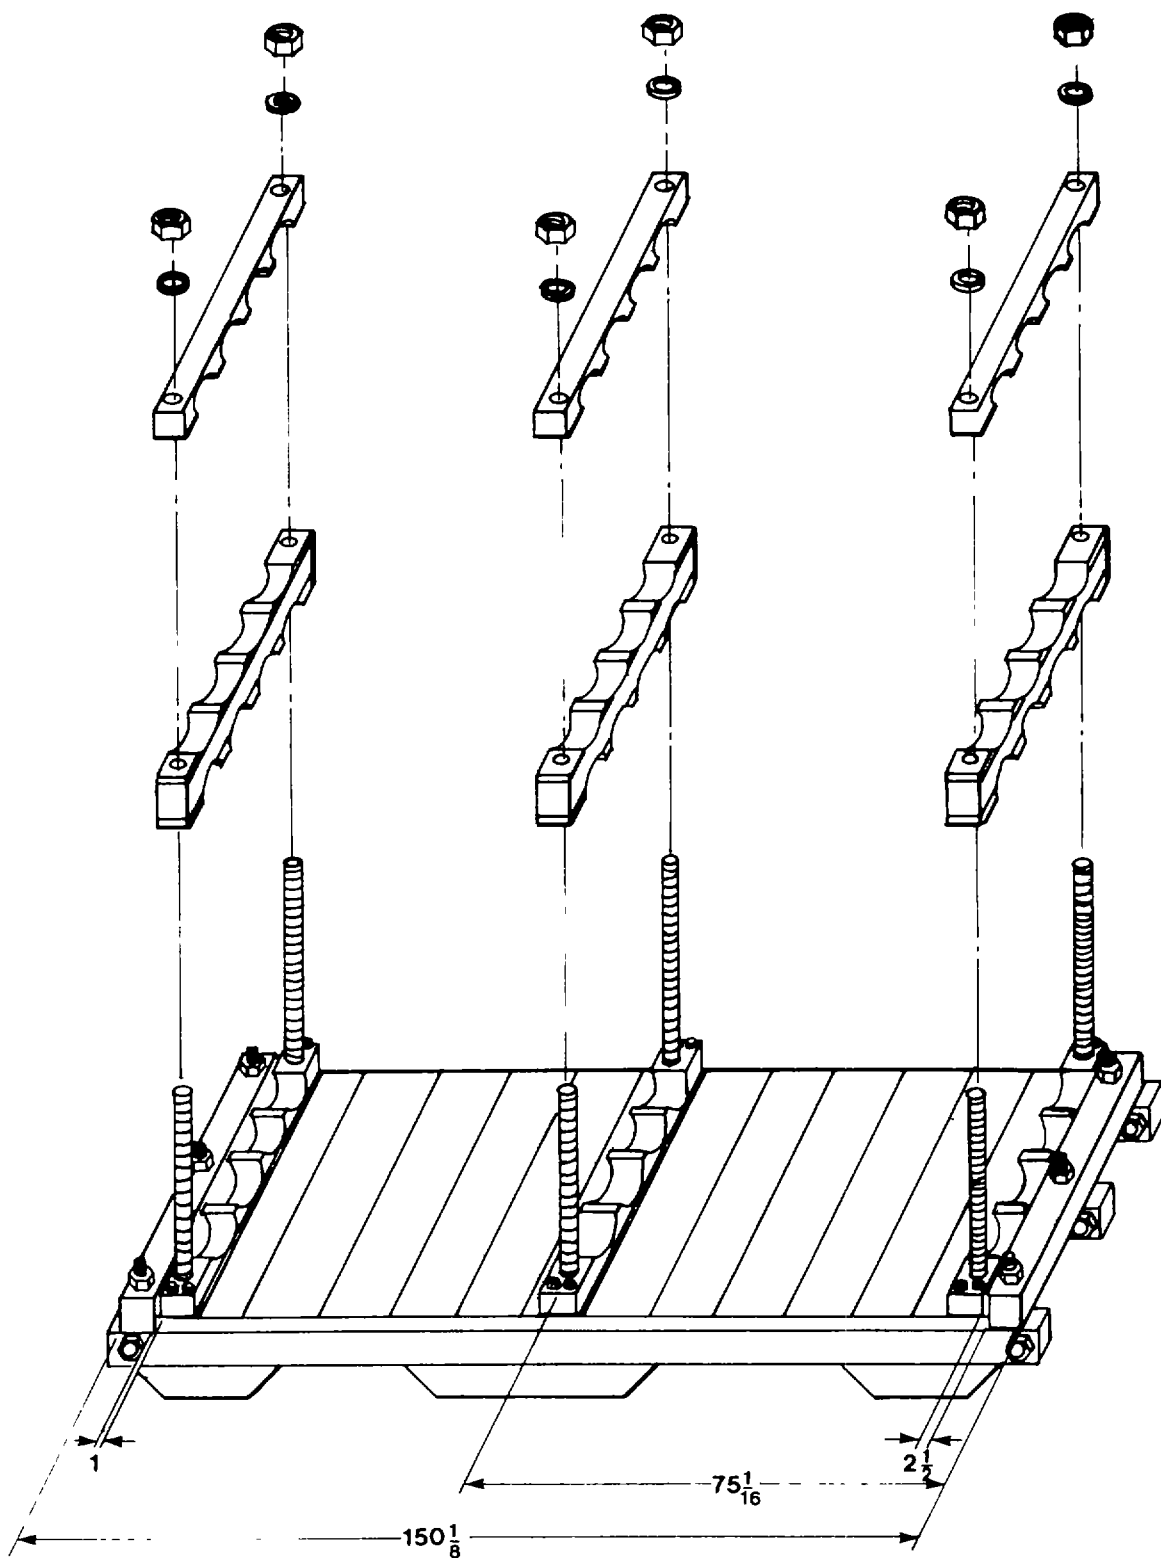
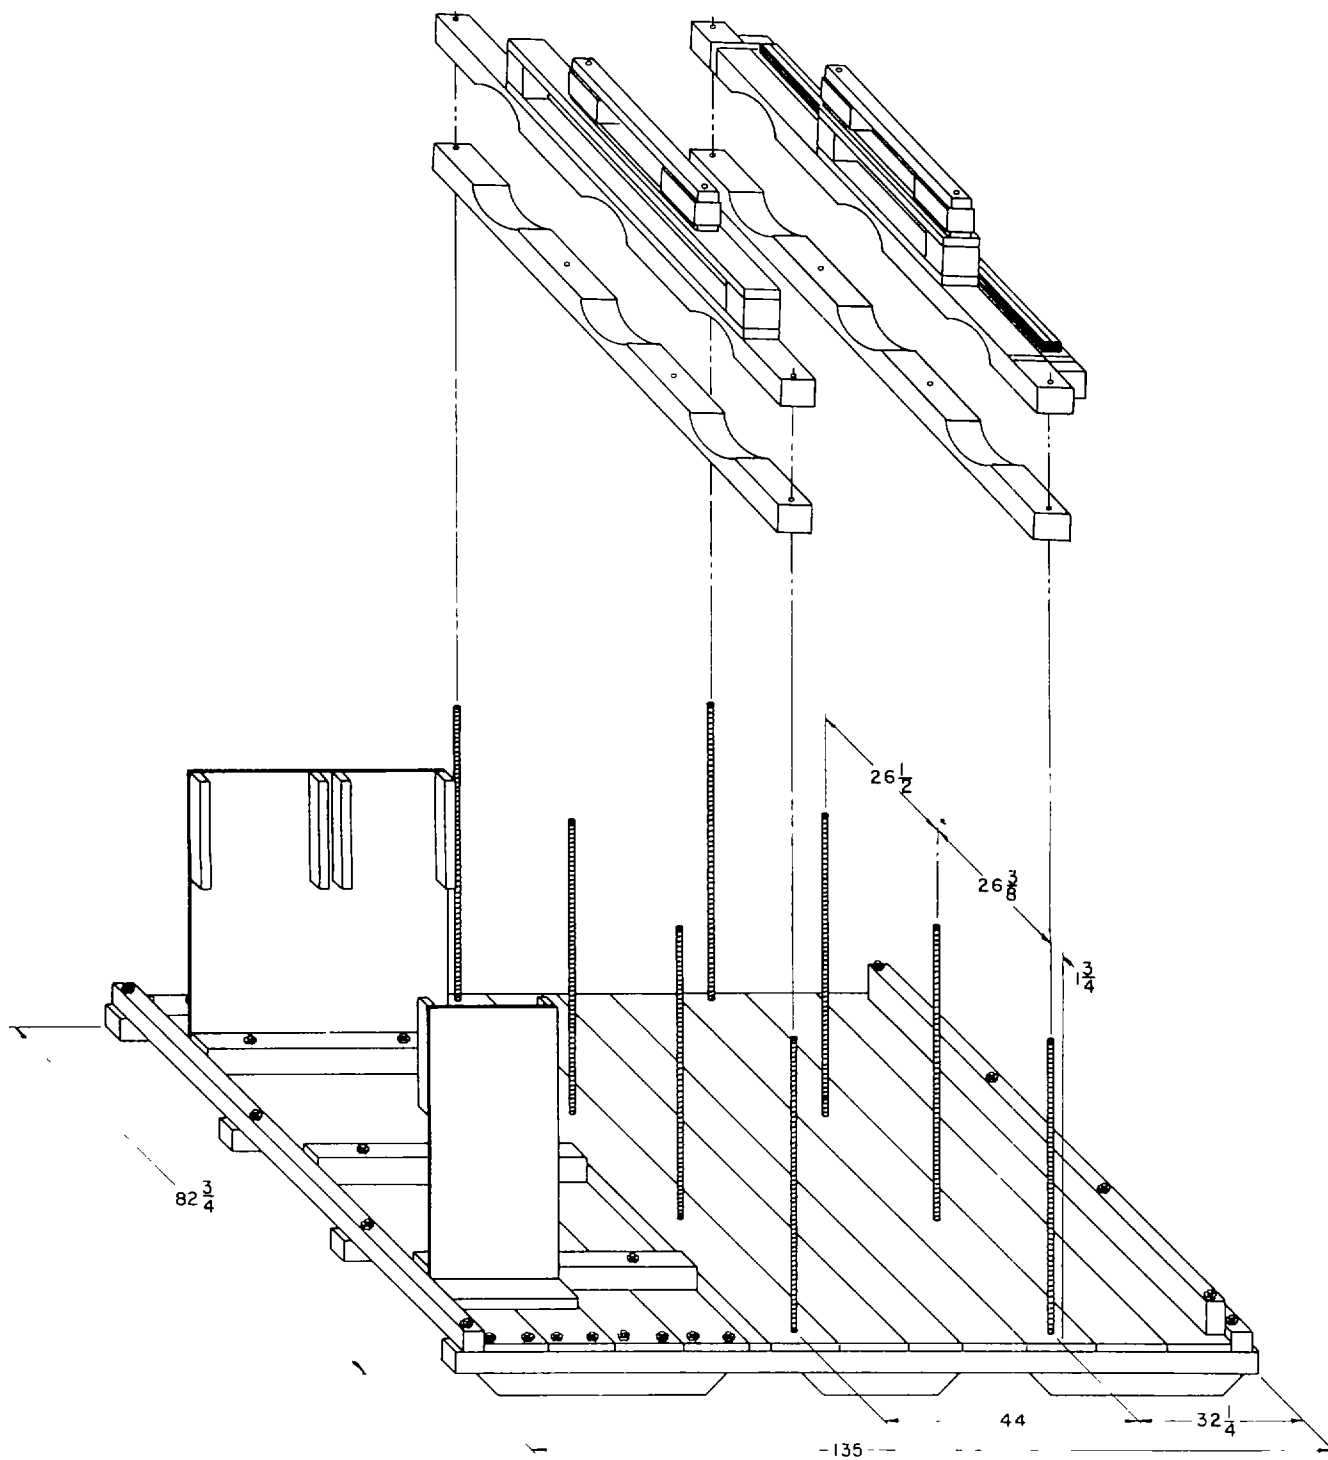
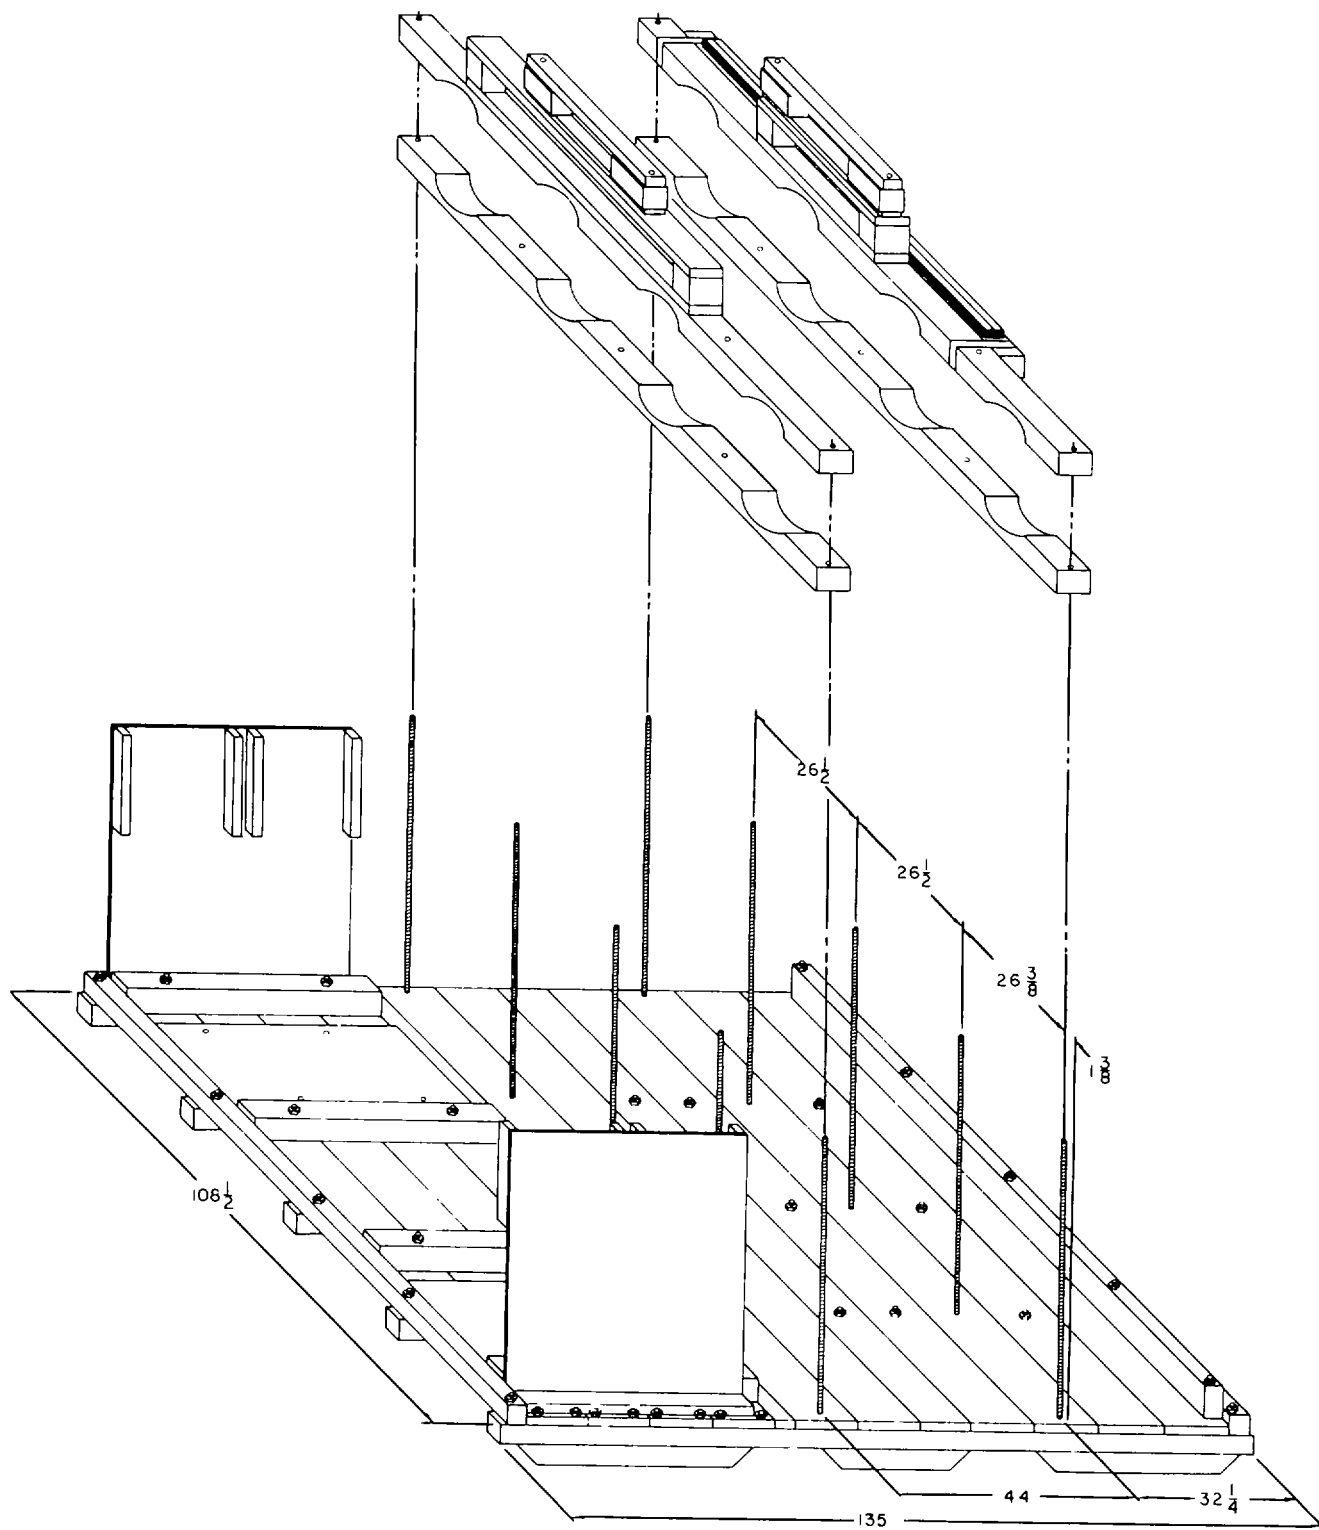

Figure B-2-7. Location of Blocking for the Exhaust Pipes (2000 KW).
Figure B-2-8. Location of Blocking for the Silencers and Accessories (1500 KW).
Figure B-2-9. Location of Blocking for the Silencers and Accessories (2000 KW).
2 cont	<p>(2) Place exhaust pipes into cradles and secure with FF-W-92 washer and FF-N-836 nuts.</p> <p>(3) Place crate top over exhaust pipes and secure to base with FF-W-92 washer and FF-B-561 lag bolts (1/2 x 4).</p> <p>(4) Mark container in accordance with appendix E and the following: Mark all four sides of the container with 2-inch minimum size letters to indicate "REUSABLE CONTAINER - DO NOT DESTROY."</p> <p>m. Packing for the Exhaust Pipes for 2000 KW.</p> <p>(1) Fabricate a MIL-C-104 crate (158 x 70-1/4 x 45) and cradles in accordance with appendix D-3 and figure B-2-7. Refer to table B-2-9 for a list of materials.</p> <p>(2) Place exhaust pipes into cradles and secure with FF-W-92 flat washer and FF-N-836 nuts.</p> <p>(3) Place crate top over exhaust pipes and secure to base with FF-W-92 washer and FF-B-561 lag bolts (1/2 x 4).</p> <p>(4) Mark container in accordance with appendix E and the following: Mark all four sides of the container with 2-inch minimum size letters to indicate "REUSABLE CONTAINER - DO NOT DESTROY."</p> <p>n. Packing for the Silencers, Elbows, Gaskets, and Exhaust Supports for the 1500 KW.</p> <p>(1) Fabricate a MIL-C-104 crate (133-1/2 x 82-1/2 x 51-1/2) and cradles in accordance with appendix D-3 and figure B-2-8. Refer to table B-2-10 for a list of materials.</p> <p>(2) Secure flat piece of the exhaust support to the base with FF-W-92 washer and FF-N-836 nuts.</p> <p>(3) Place silencers into cradle and secure with threaded rod and FF-N-836 nuts.</p> <p>(4) Bolt elbows to base and upright panels with FF-B-584 bolt (1/2 x 4).</p>
<p>2 cont.</p>	<p>(5) Place gaskets in a PPP-B-636 fiberboard box (15-1/2 x 15-1/2 x 2) and seal box lid with PPP-T-76 tape. Secure to upright panel which supports the elbows with QQ-S-781 steel strapping, edge protector and seals.</p> <p>(6) Place the "Y" braces and bars of the exhaust support in the top cradle and secure with FF-N-836 nuts.</p> <p>(7) Install blocking and bracing. Refer to figure B-2-8 for fabrication and location details.</p> <p>(8) Place crate top over base and secure with FF-W-92 washer and FF-B-561 lag bolts (1/2 x 4).</p> <p>(9) Mark container in accordance with appendix E and the following: Mark all four sides of the container with 2-inch minimum size letters to indicate "REUSABLE CONTAINER - DO NOT DESTROY."</p> <p>o Packing for the Silencers, Elbows, Gaskets, and Exhaust Supports for the 2000 KW.</p> <p>(1) Fabricate a MIL-C-104 crate (133-1/2 x 109-1/4 x 51-1/2) and cradles in accordance with appendix D-3 and figure B-2-9. Refer to table B-2-11 for a list of materials.</p> <p>(2) Secure flat piece of the exhaust support to the base with FF-W-82 flat washer and FF-t-836 nuts.</p> <p>(3) Place silencers into cradle and secure with FF-N-836 nuts.</p> <p>(4) Bolt elbows to base and upright panels with FF-B-584 bolts (1/2 x 4).</p> <p>(5) Place gaskets in a PPP-B-636 fiberboard box (15-1/2 x 15-1/2 x 2). Seal box lid with PPP-T-76 tape. Secure to upright panels which support the elbows with QQ-S-781 steel strapping, edge protectors, and seals.</p> <p>(6) Place bars of the exhaust support and the "Y" braces in the top cradle and secure with FF-W-92 washer and FF-N-92 nuts.</p> <p>(7) Install blocking and bracing. Refer to figure B-2-9 for fabrication and location details.</p>